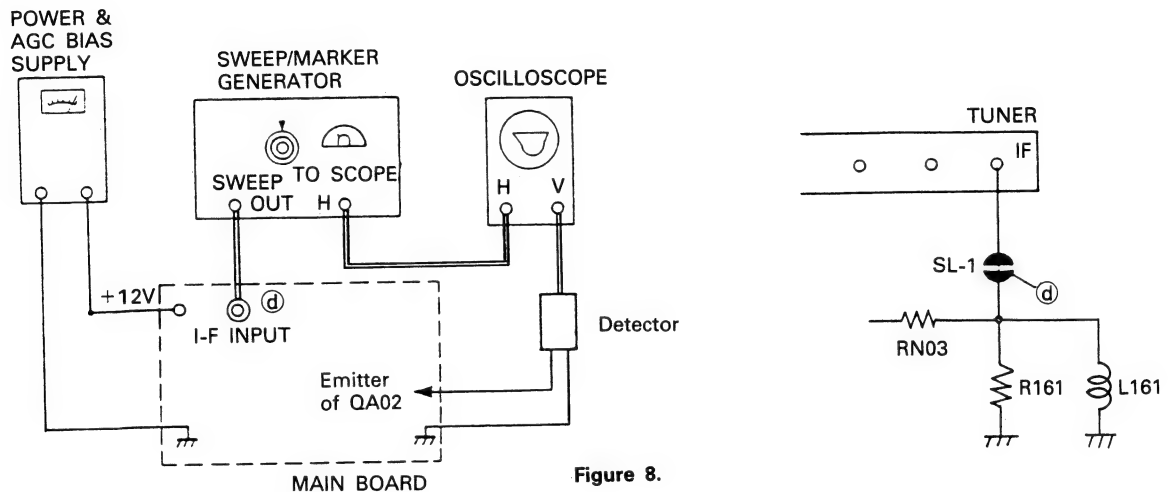

Figure 8.
GENERAL Refer to figures 8 for the equipment connection.
PRELIMINARY STEPS 1. Disconnect the solder link SL-1(●) see figure 8) on the foil side of the Main Board.
SWEEP/MARKER GENERATOR Connect to the point ④ as shown in figure 8 on the Main Board.